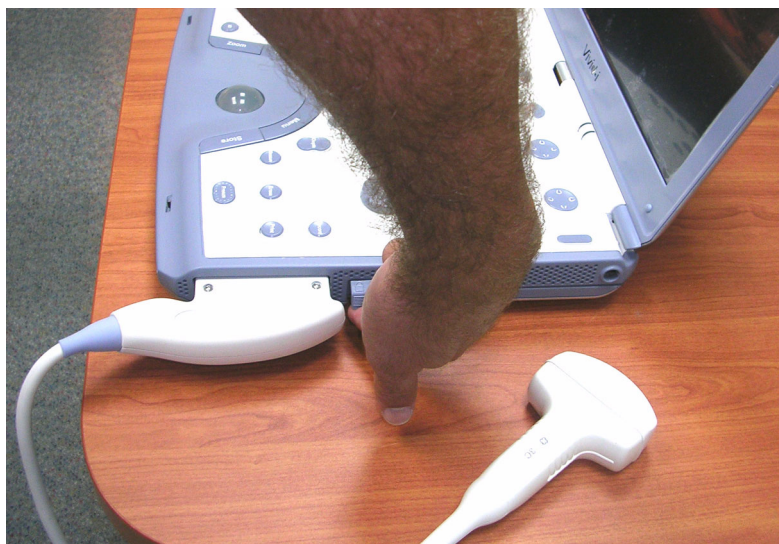

Figure 3-64 Securing Probe with Locking Lever
- 6) Press the connector locking lever *upwards* to the full vertical position to lock in place, as shown in Figure 3-64.